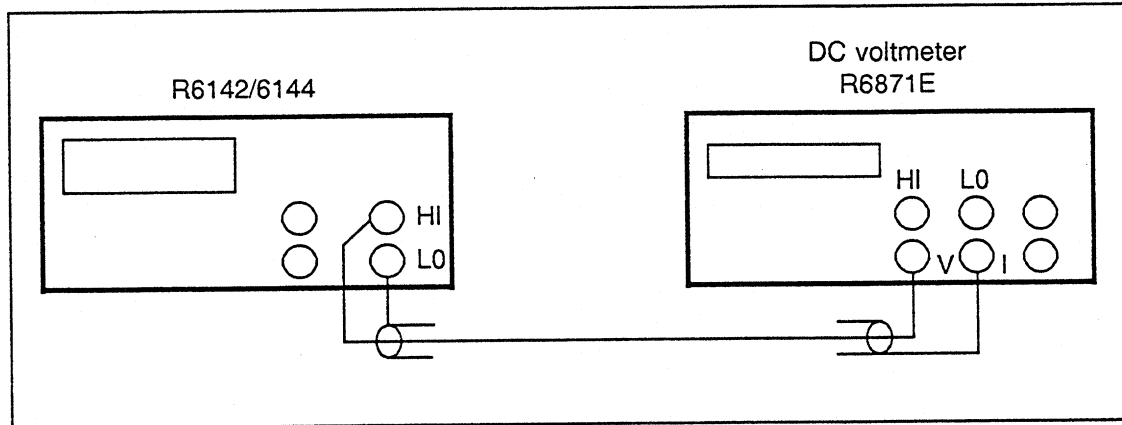

Figure 4-7 Cable Connection for Voltage Limiter Test
- ① Connect the R6142/6144 to the R6871E as shown in Figure 4-7.